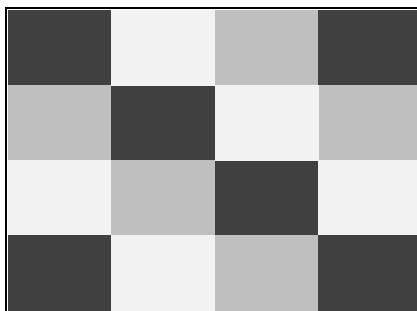

Figure 4-2. Display Test Pattern
6. Press  **CALIBRATE** .The Test Tool shows a dark display; the test pattern as shown in Figure 4-2 may be not visible or hardly visible.
The Test Tool shows the display test pattern shown in Figure 4-2, at default contrast.
The Test Tool shows a light display; the test pattern as shown in Figure 4-2 may not be visible or hardly visible.